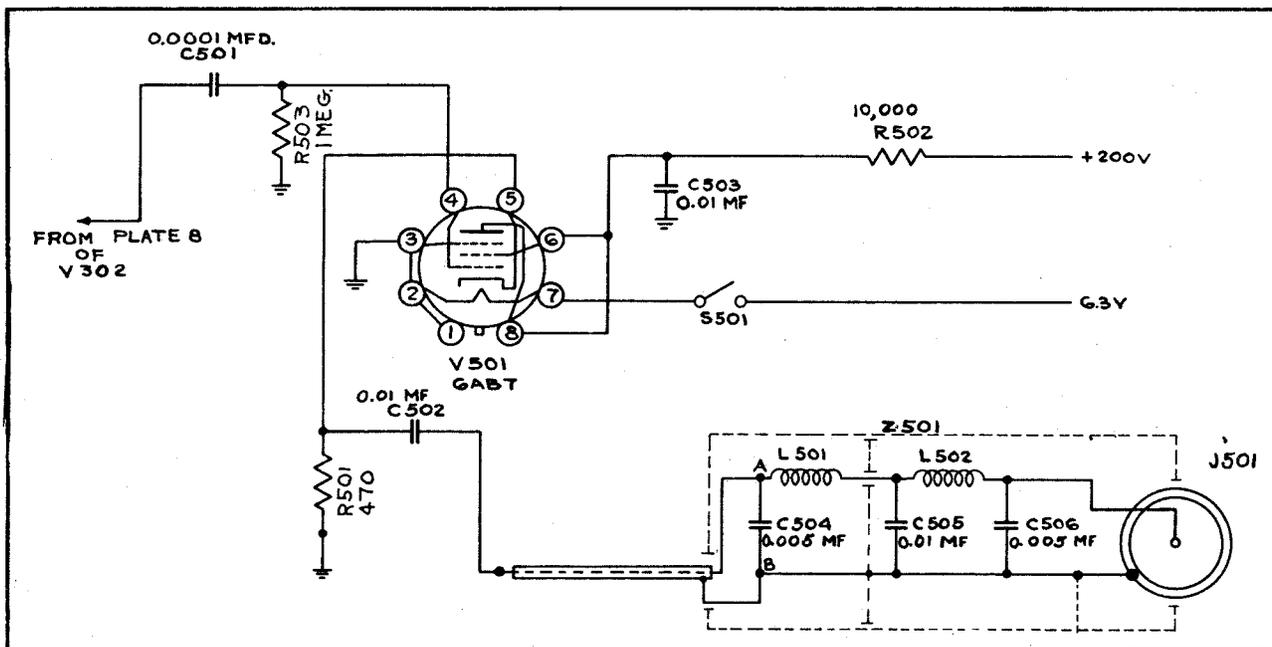

Figure 2-13. Simplified Schematic Diagram, Cathode Follower Circuit
n. CATHODE FOLLOWER.—The cathode follower circuit, employing tube V501, is utilized simply as a means for coupling a Frequency Shift Converter or a Panoramic Adapter to an RBB/RBC receiver. Essentially an impedance transfer device for connecting a low-impedance load to a high-impedance source, the cathode-follower stage is coupled to the output of the second i-f stage through capacitor C501. Figure 2-13 is the schematic diagram of this circuit.